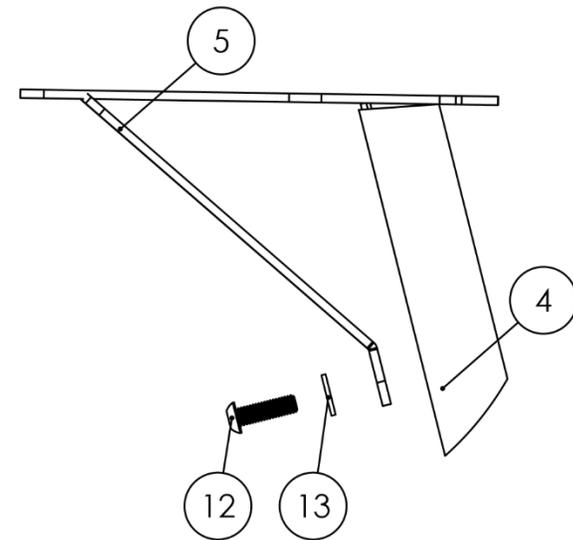

Figure 8
5. **Attach the Crossbar Gussets to the Legs.** Grab the (4) Crossbar Gusset Assemblies (Item No. 5) and notice that their angular projection parallels the inside of the Legs (Item No. 4). As shown in Figure 8, slide this end into the Legs and secure the parts by threading a 1.25" Button Head Cap Screw (Item No. 12) and a Metal Washer (Item No. 13) into the concentric holes.